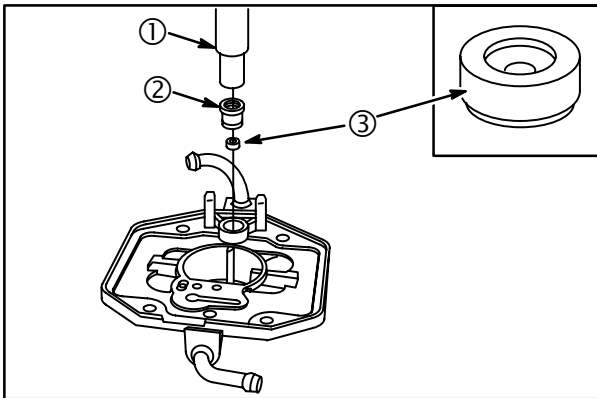

Fig. 106
1. Install new inlet seat (3) with chamfered end down, **Fig. 106.**
2. Press in new body (2) using Tool #19135 (1).